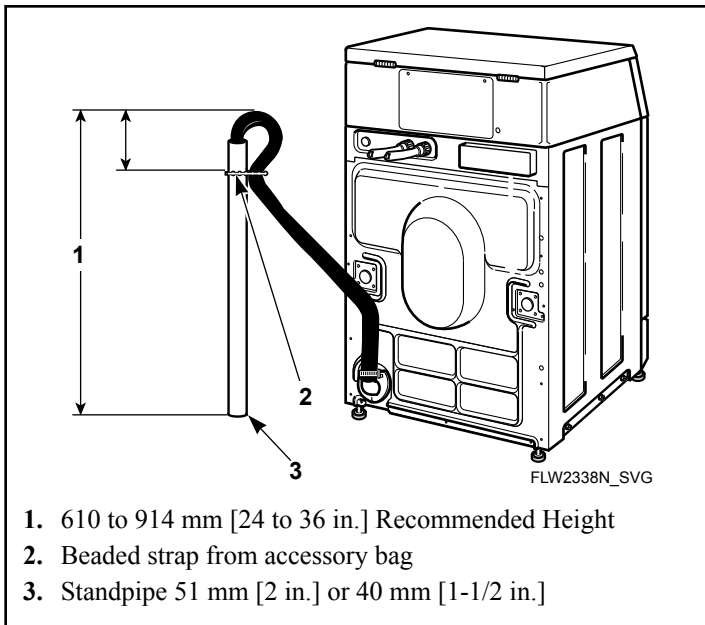

Figure 11
2. Remove the beaded tie-down strap from accessories bag and place around standpipe and drain hose and tighten strap to hold hose to standpipe. Refer to *Figure 11*. This will prevent